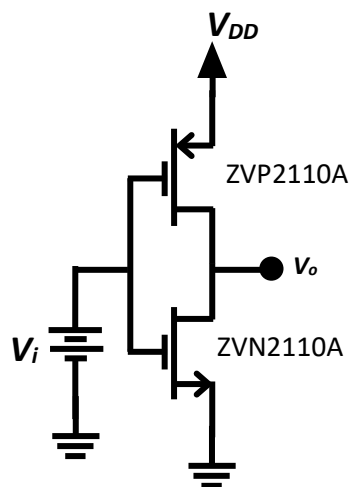

Figure 3 CMOS inverter
CMOS technology uses NMOS and PMOS transistors that act as complementary switching transistors on the same wafer (substrate) or chip. The complementary transistors work in a push-pull mechanism such that when one transistor is ON then it becomes a short circuit, but when it is OFF it acts as open circuit. The push-pull switching mechanism is useful in building digital circuits. The simplest digital CMOS circuit is the inverter which is made of a PMOS transistor and an NMOS transistor as shown in Figure 3.
During the transition from 0 V (low) to V_{DD} (high), the CMOS inverter transitions through five operating regions as shown in Figure 3; these regions are summarized in Table 1. Note that the current is non-zero when the output of the inverter is transitioned; hence, the power dissipation is non-zero. This explains why the power dissipation is proportional to switching frequency. Note that in Region 3 $\left| \frac{dV_o}{dV_i} \right|$ is maximum, so it acts as an amplifier. In this experiment, you will build a CMOS inverter and you will investigate the different regions of the inverter. Then you will bias the inverter in Region 3 and test it as an amplifier.
1. Set up the CMOS inverter circuit shown in Figure 3. Use the ZVN2110A NMOS transistor and the ZVP2110A PMOS transistor to build the circuit. Use one supply voltage to be V_{DD} and set $V_{DD}=5\text{ V}$, and the other DC supply voltage to be the DC input voltage.